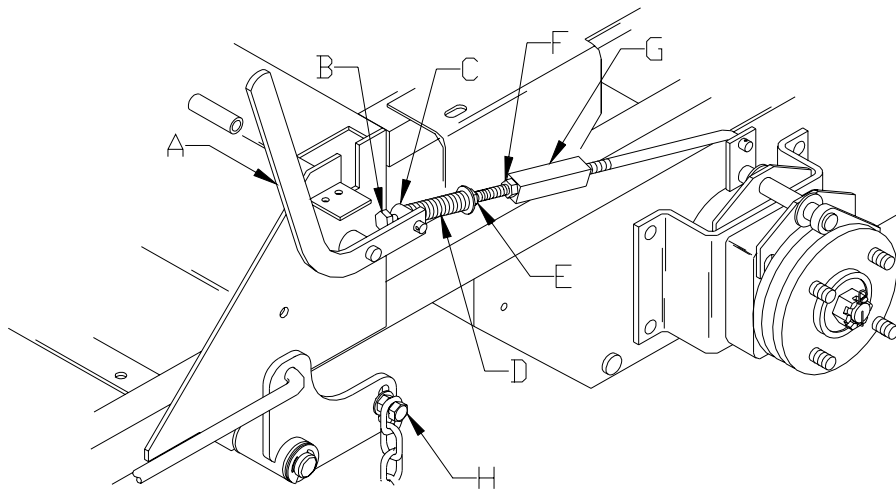

FIGURE 2
1. Stop engine and remove key. While the park brake lever "A" is in the on position. The distance between the swivel "C" and the bolt head "B" should be $\frac{3}{8}$ " to $\frac{1}{2}$ " approximately. (See Fig. 2)
3. While the park brake lever "A" is still in the on position, measure the length of the spring "D". Should measure 2". (See Fig. 2)
4. Adjust the four upper chain bolts "H" to the center of the slot in the deck lift arms (See Fig 2). NOTE: make sure deck lift blocks are tightly bolted to the frame .